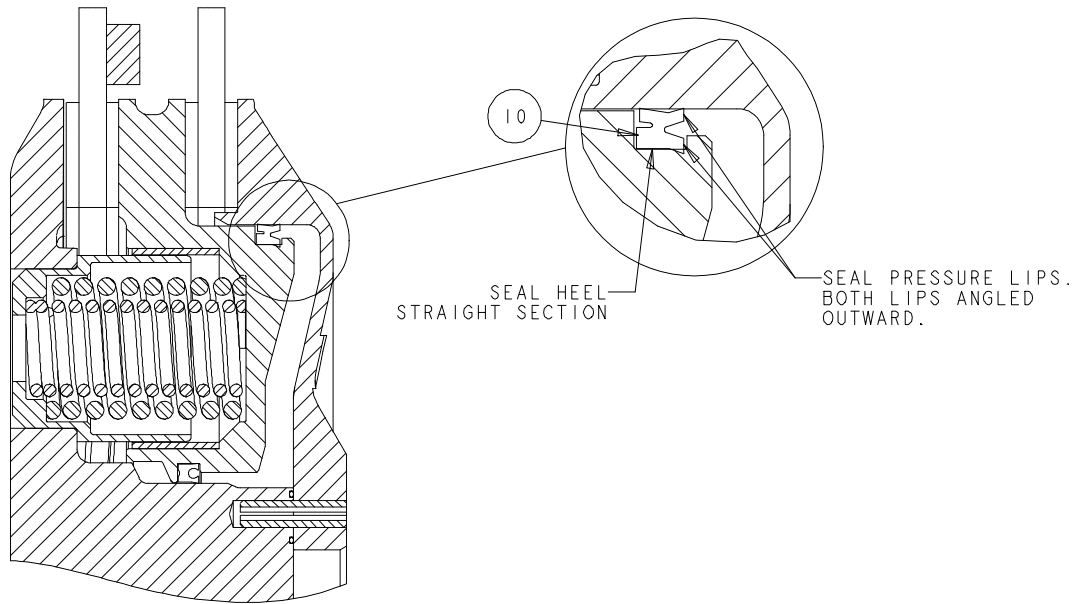

Figure 14
- 4.5.5 Apply Dow Corning® #55 to piston seals (9)(10) and install on piston. Refer to Figure 14 for seal orientation.